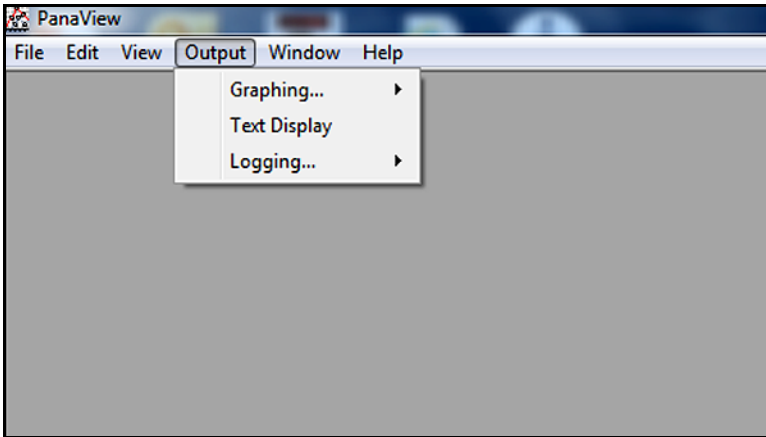

Figure 51: The Output Menu
To access PanaView’s data handling options, pull down the “*Output*” menu, as shown in *Figure 51* below.
2. Pull down the *“Output”* menu and click on the *“Text Display”* option (see *Figure 51* on page 72).
2. Pull down the “*Output*” menu and click on the “*Graphing - New*” option (see *Figure 51* on page 72).